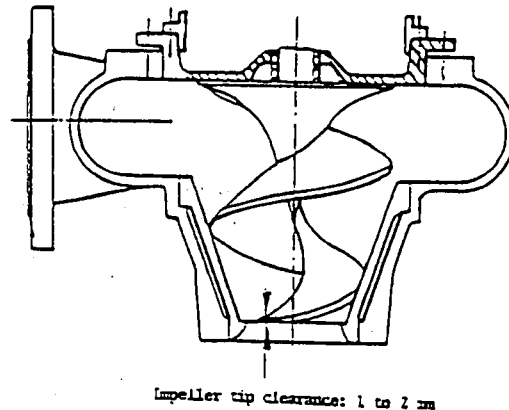

Figure 32
**NOTE:** (Whenever a new impeller is fitted, without also replacing the liner or suction cover at the same time, the following clearance check must be done: Install impeller-motor assembly into volute casing assembly. If the tip of the impeller touches the suction ring (408) or the lip in the liner (or suction cover) - or if there is less than 1mm clearance between the tip and the lip when the spiral edge of the impeller is firmly seated against the conical taper inside the liner (or suction cover), then the impeller tip must be ground off - parallel to the suction flange - until 1 to 2mm clearance is obtained. See Figure 32).